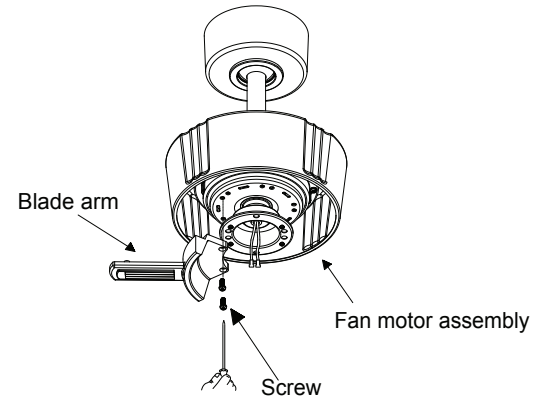

Fig. 16
**Step 1.** Fasten the blade arm to the fan motor assembly by tightening the blade arm screw onto the fan motor assembly. (Fig. 16)